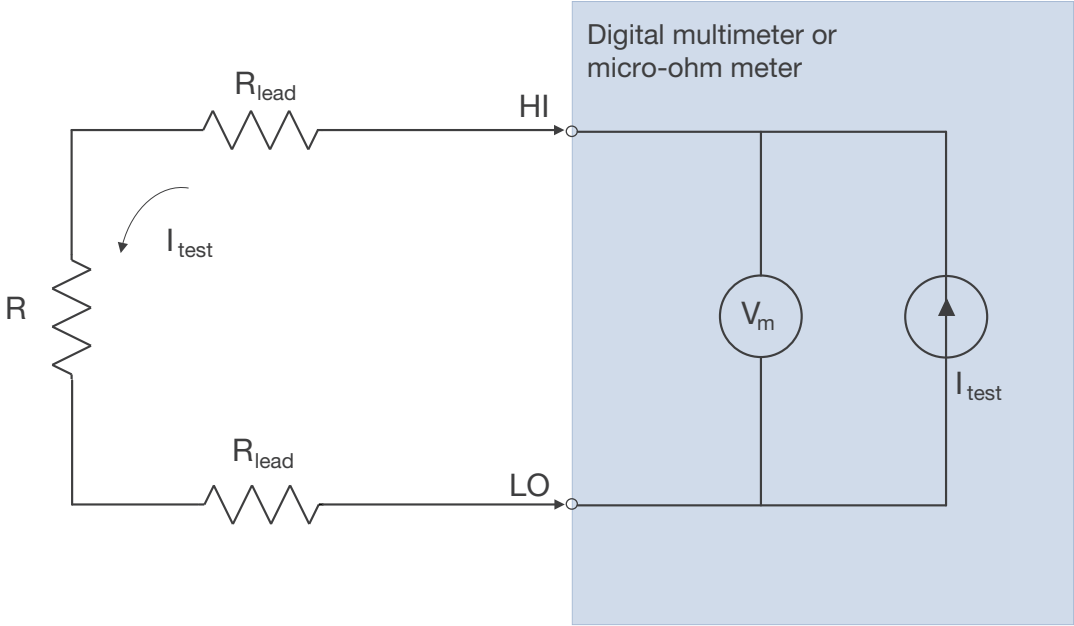

Figure 1. A 2-wire resistance measurement setup where R is the device under test
Figure 1 shows a 2-wire resistance measurement setup where the shaded portion of the diagram is the internal circuitry of a DMM or a micro-ohm meter. The unshaded portion of the diagram shows the differential inputs high (HI) and low (LO), where each of the cable leads connects to R, which is the DUT. The lead cables have innate resistances; use  $R_{\text{lead}}$  as the symbol to represent them. The measuring instrument will source out a known current,  $I_{\text{test}}$ , and measure the voltage,  $V_m$ , across HI and LO inputs. When you apply Ohm's law to the measurement, you have: